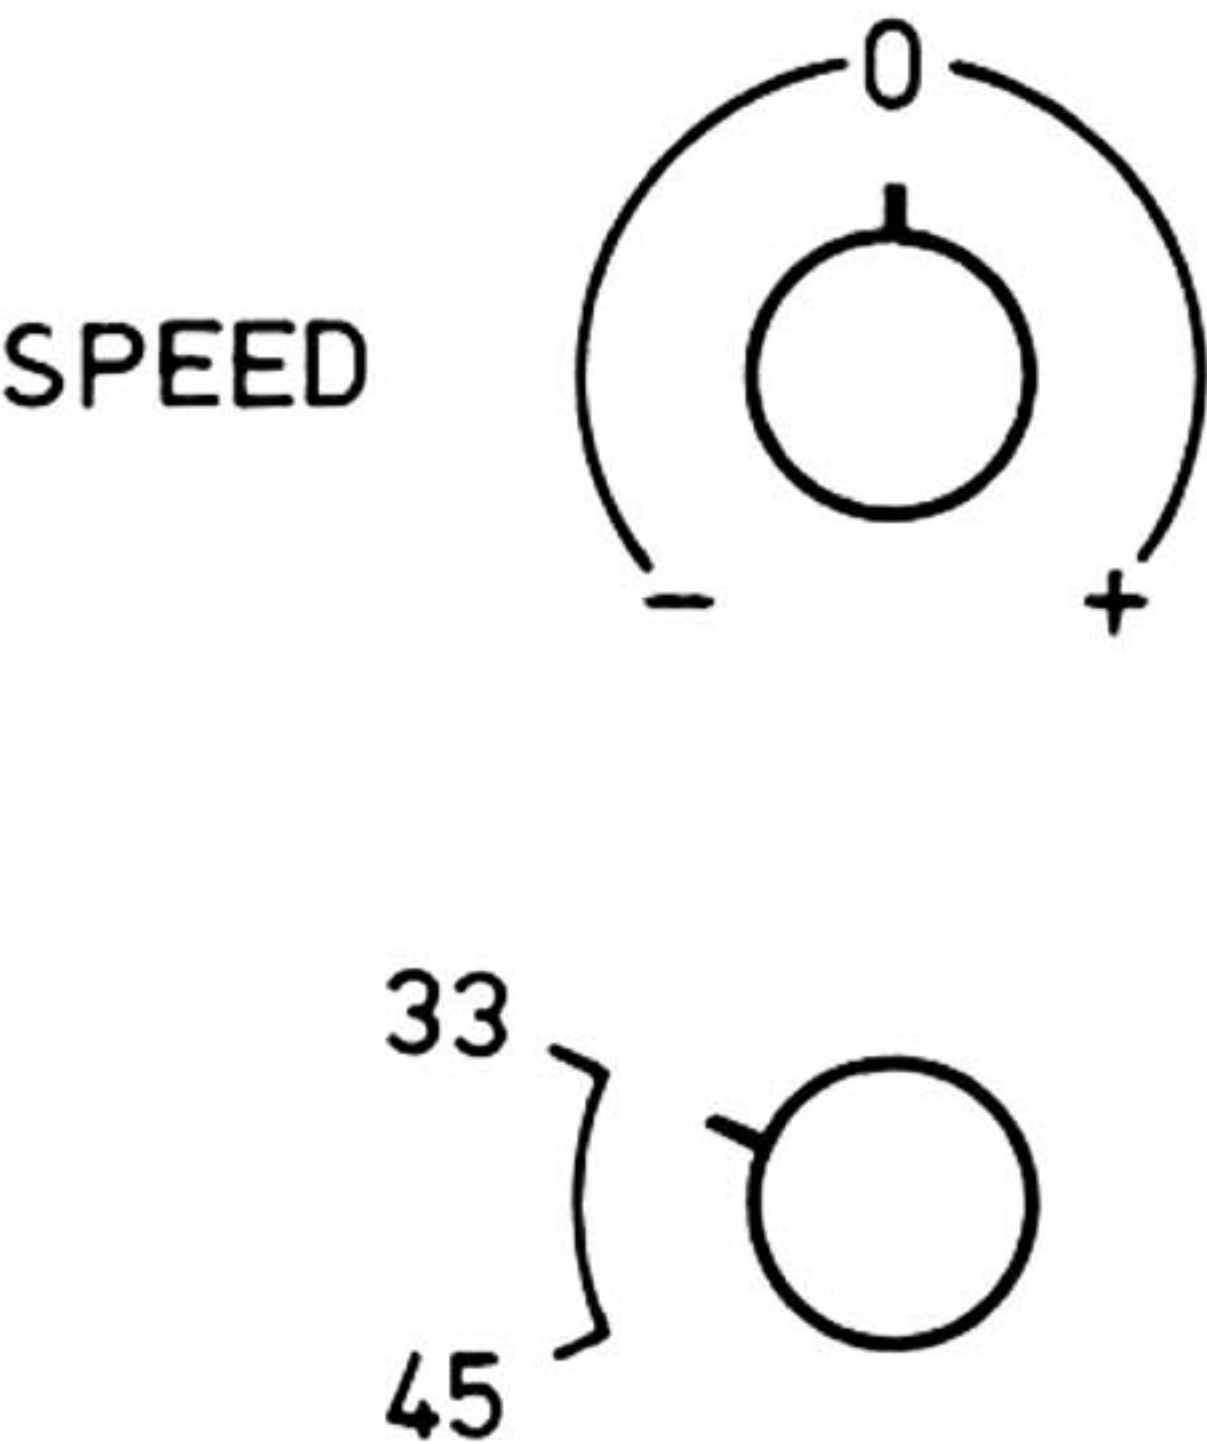

Fig. 1
4. Check the setting of the fine speed control knob (P 1) by comparing its fully clockwise position with that on fig. 1. If necessary adjust the position by removing the upper part of the knob and replacing in the correct position.